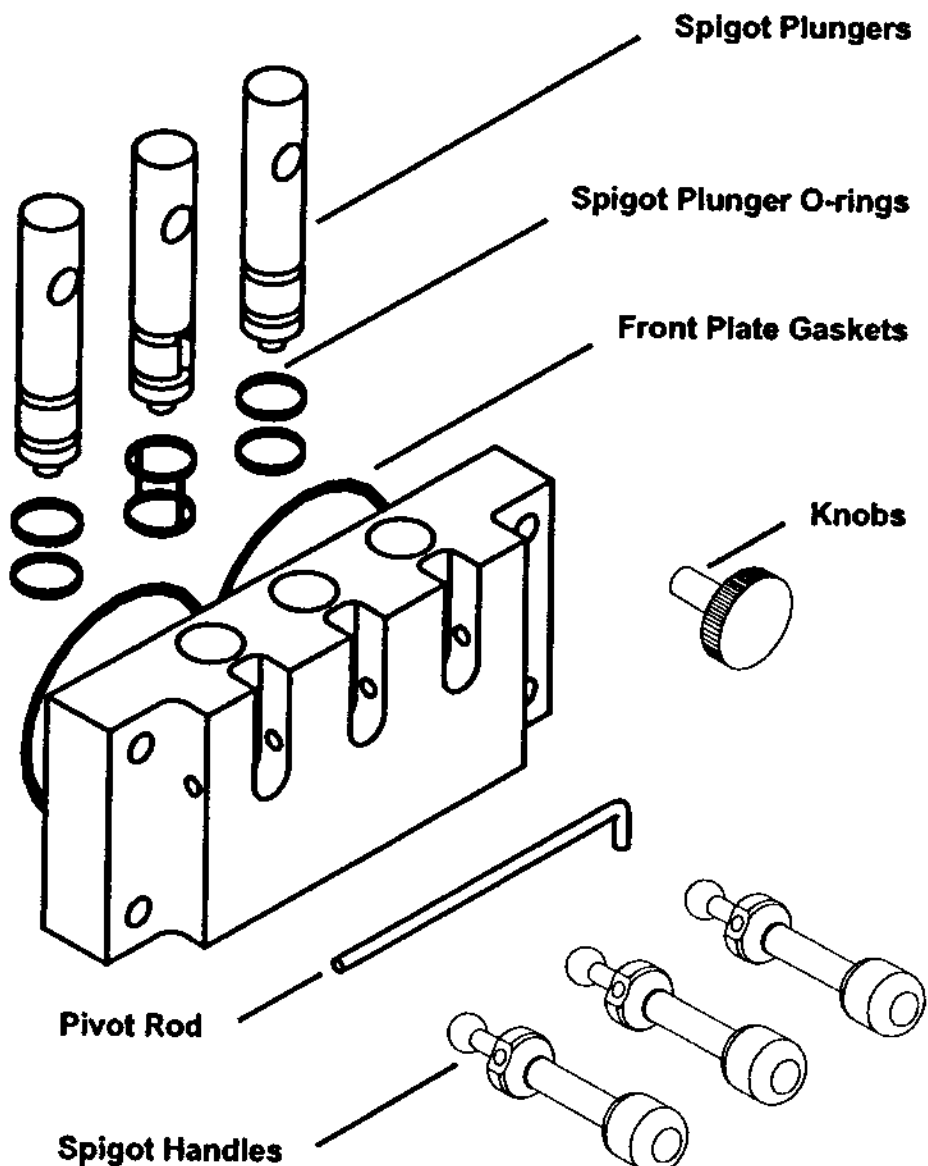

Fig. 7
5. Remove the front plate by turning the four black plastic knobs in a counterclockwise direction (Fig. 7).